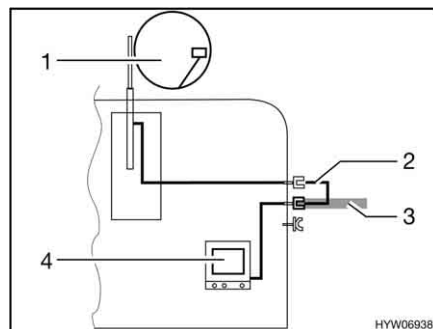

Fig. 174 TV inside the vehicle
- TV inside the vehicle (Fig. 174,4): Connection to roof antenna (Fig. 174,1) with connection cable (Fig. 174,2)
- TV inside the vehicle (Fig. 174,4): Connection to external antenna (Fig. 174,3)